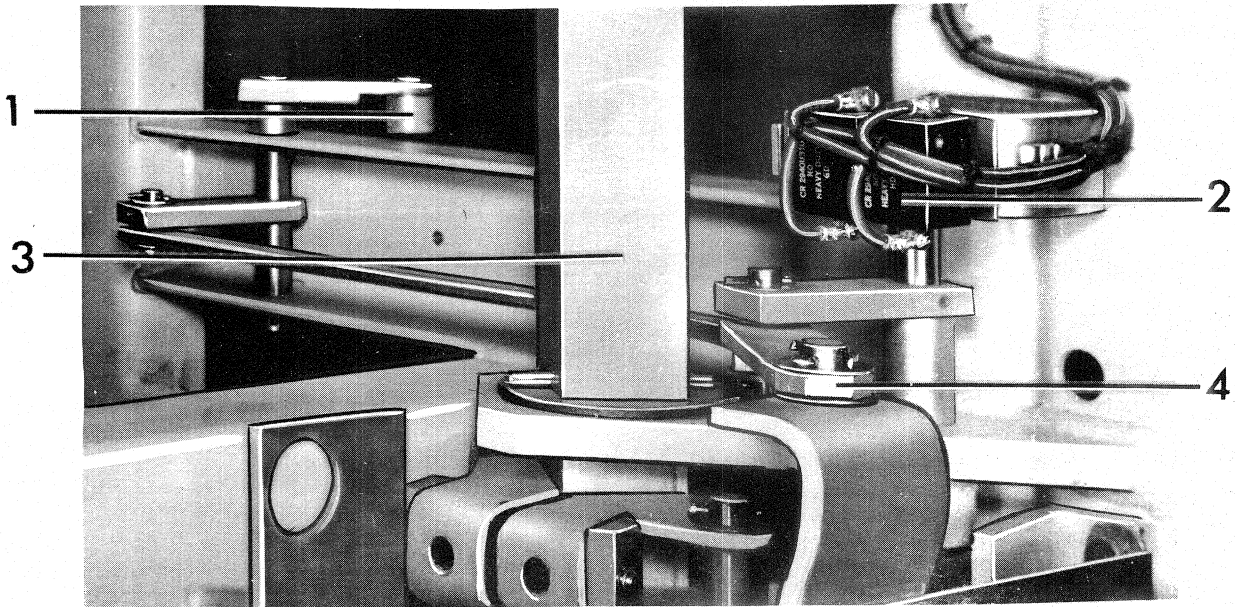
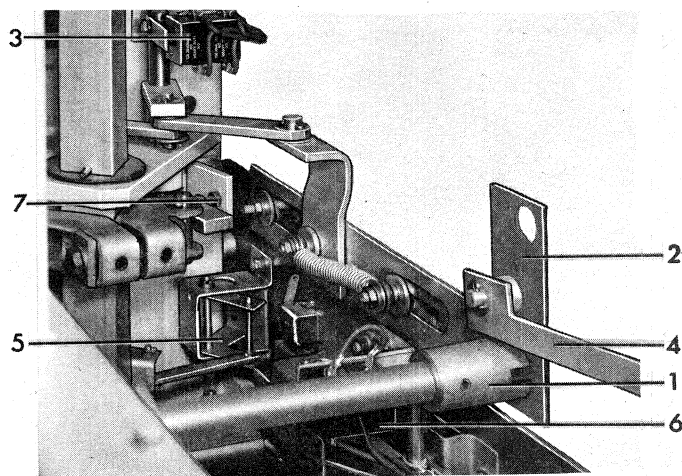
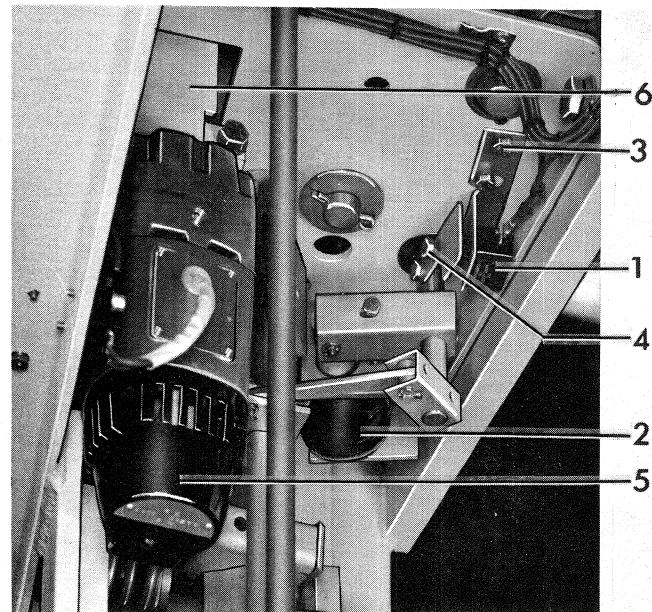

Figure 8. (8039292) Positive Interlock
Figure 9. (8039295) Racking Screw Shutter
Figure 13. (8039314) Motor Mounting
A positive interlock (1) Fig. 8 works with the racking screw shutter (2) Fig. 9 to prevent insertion or removal of the breaker when the contacts are closed. It also prevents closing the breaker except in the fully connected or test position. Electrical operation of the breaker is also prevented by the interlock linkage.
If adjustment is necessary, loosen switch (1) Fig. 13 and move for clearance. Loosen nut and adjust stop (4) until the proper wipe is obtained. Secure the stop nut and reset switch (1) as listed under Switch Adjustment page 19.
The strikers for operating the motor switch (3) Fig. 22, positive interlock switches (2) Fig. 8, closing latch monitoring switch (1) Fig. 13 and trip latch checking switch (1) Fig. 23 should be adjusted to a clearance of  $1/64"$  to  $1/32"$  from the switch support. The switch supports should be loosened and the switch moved to obtain this dimension.